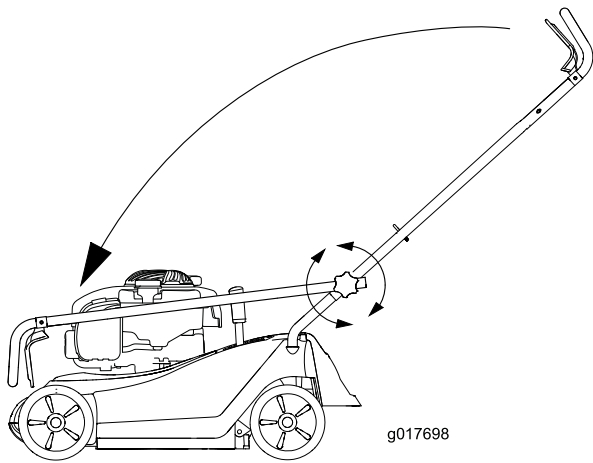

Figure 25
3. Fold the handle as shown in Figure 25.